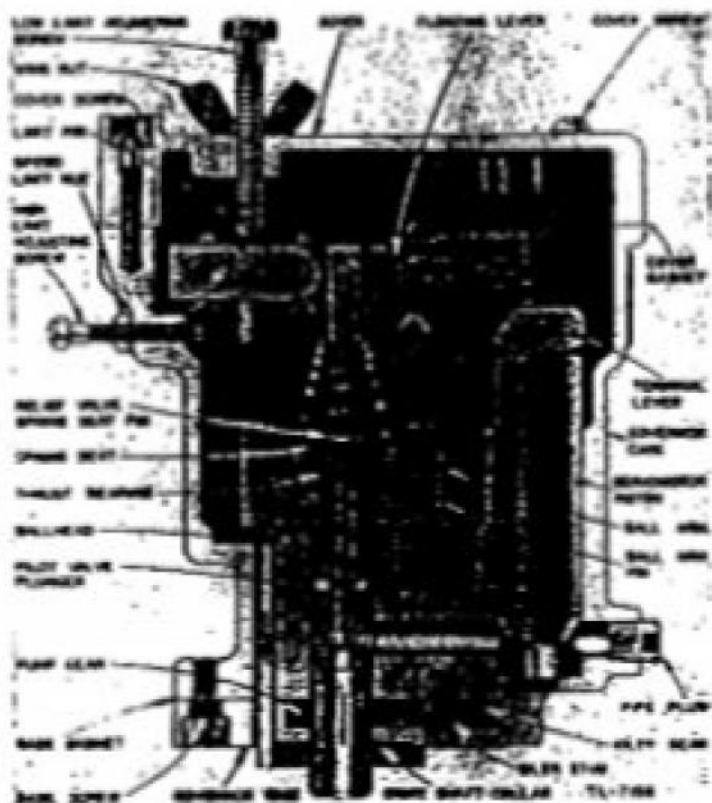

Figure 17. Cutaway view (side) of governor.
e. DESCRIPTION OF OPERATION. (1) The hydraulic feature is brought about by oil from the engine lubricating system, being admitted under pressure, to a gear pump in the governor base. (See figs. 17 and 18.) The gear pump raises the oil pressure to a value determined by the relief-valve spring opposing the relief-valve plunger. When the governor is operating, the oil under pressure is maintained in the annular space between the reduced diameter on the pilot-valve plunger and in the bore in the ballhead.
(2) For any given speed adjustment setting, the speeder spring has a definite compression. This must be opposed by the centrifugal force of the flyballs. When these two forces are equal, the land on the pilot-valve plunger exactly covers the lower holes, or ports, in the ballhead. Under a steady load condition, speed will remain constant, and the pilot valve will pass only that amount of oil required to replace leakage, and maintain the required power piston position.
(3) When an extra amount of load is applied to the engine, the speed will drop below that corresponding to the speed-adjustment setting on the speeder spring, the flyballs will be forced inward, and will lower the pilot-valve plunger. This will admit oil pressure underneath the power piston, which will rise. The movement of the power piston is transmitted to the terminal shaft by the terminal lever. Rotation of the terminal shaft causes the fuel setting on the engine to be increased.
(4) As the power piston moves upward, the drop